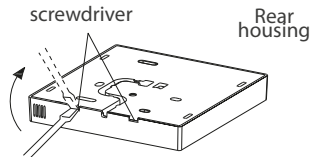

Fig. 3-2
- Insert a flat screwdriver into the slots at the bottom of the wired controller (2 places) and remove the top part of the wired controller (Fig. 3-2).